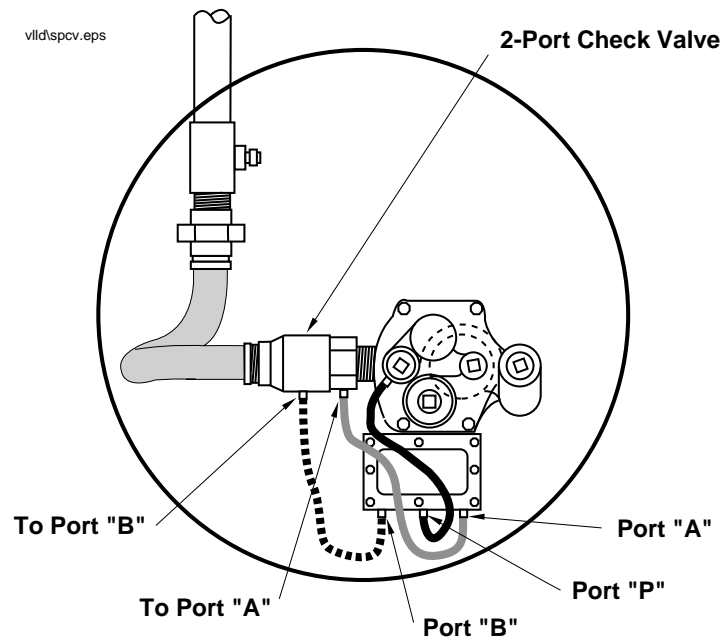

Figure 4. Single-Piece (Two-Port) Check Valve
- Single-piece check valve with 2 ports [Figure 4 on page 9]. Older VLLD systems and VLLD for high capacity pumps use the single-piece check valve shown in Figure 4.